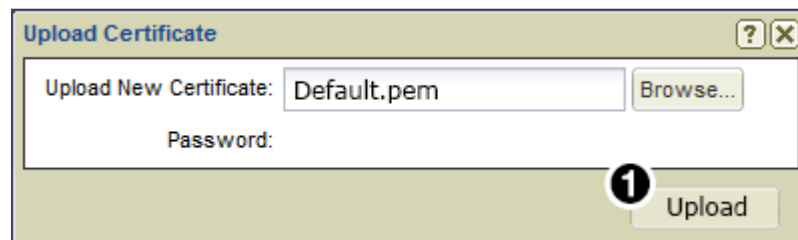

Figure 22. Upload Certificate Dialog
When the upload is complete, the **Upload Certificate** dialog opens with the new certificate file (see figure 22).
6. Click **Upload** button (see figure 22, 1).